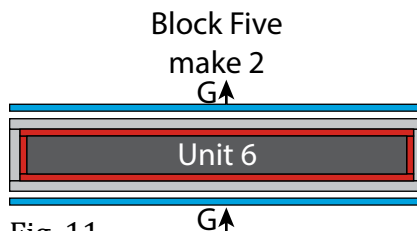

Fig. 11
9. Sew (1)  $1\frac{1}{2}$ " x  $60\frac{1}{2}$ " Fabric G strip to the top and to the bottom of (1) Unit 6 strip lengthwise to make (1)  $13$ " x  $60\frac{1}{2}$ " Block Five strip (Fig. 11). Repeat to make a second Block Five strip.